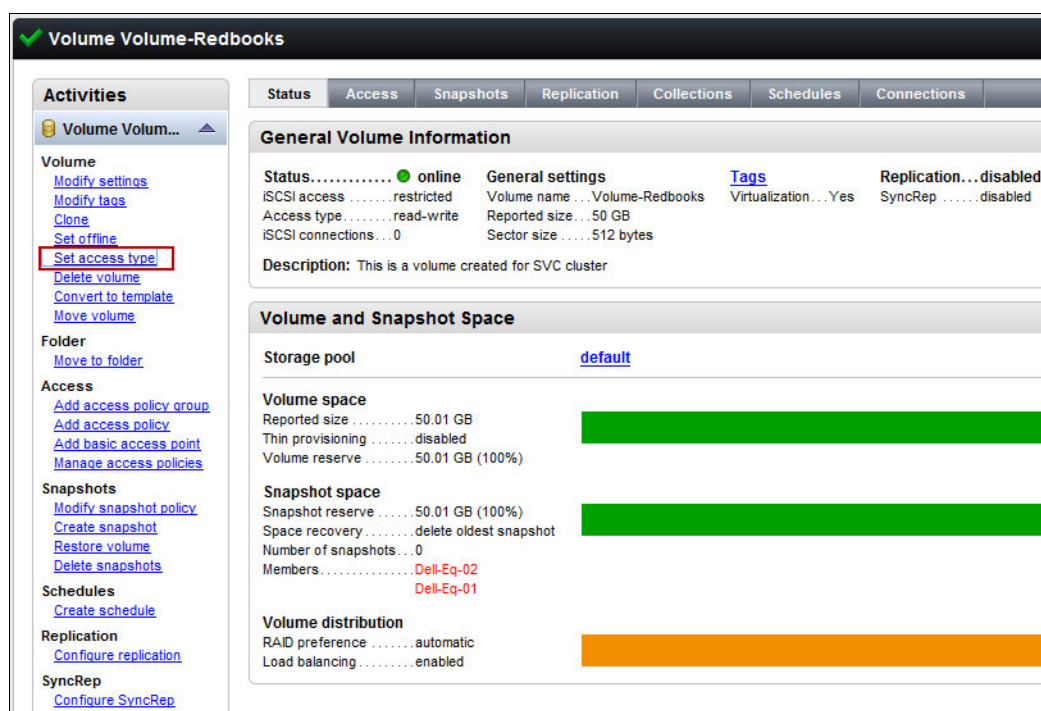

Figure 14-23 Selection of the access type for the volume
3. In the Activities window, click **Set access type**, as shown in Figure 14-23.